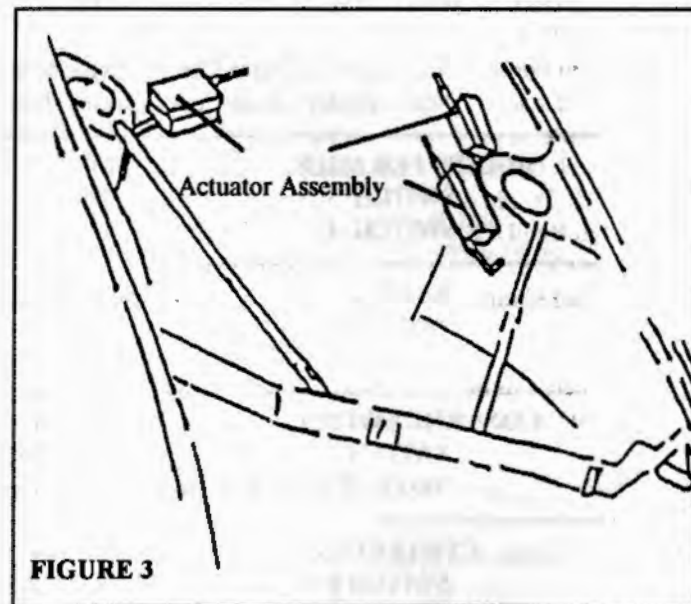

FIGURE 3
4. Once you have confirmed that the **Harness Assembly** and the **Cable Assembly** will reach their respective locations, mount the **Actuator Assembly** in the spot you have selected with **Screws** provided in the kit. (Figure 3)